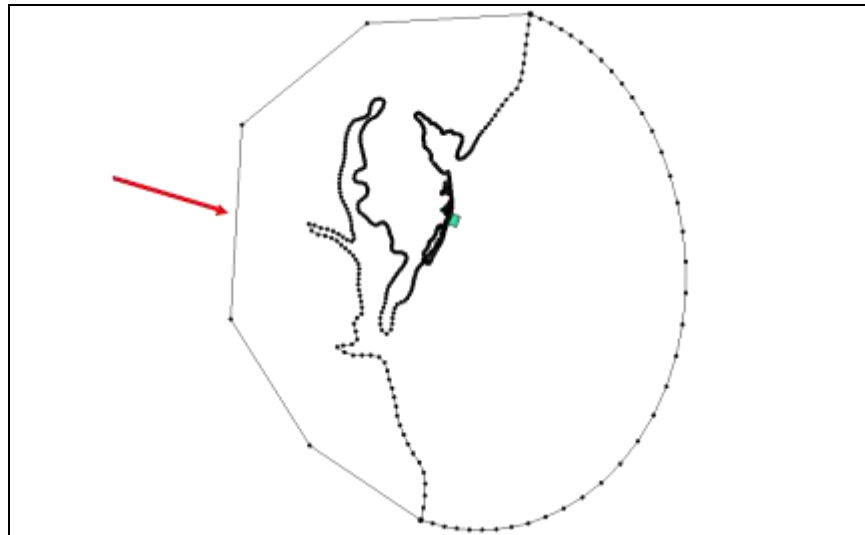

Figure 4 Arc enclosing the land
7. Using the **Create Feature Arc**  tool, create an arc enclosing the land side of the project (Figure 4).